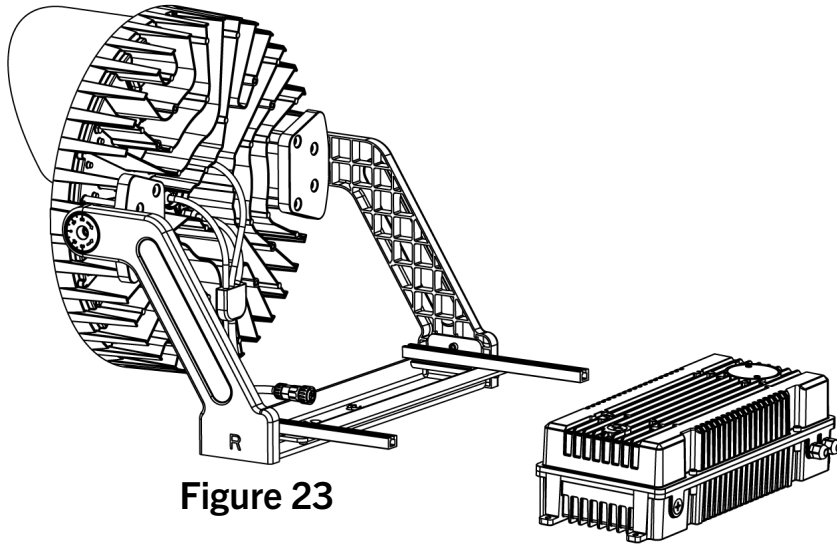

Figure 23
- Remove the driver box from the guide rails, as shown in Figure 23.